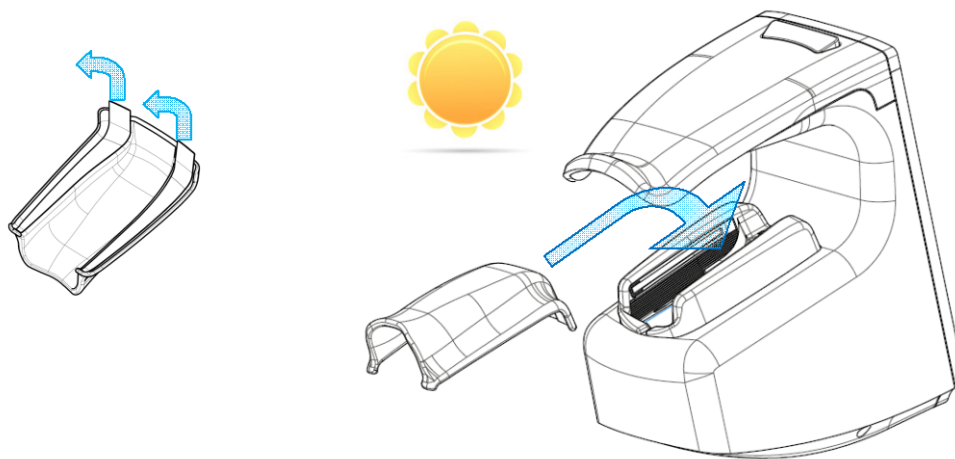

Figure 12: Assembling protection accessory
13. Depending on the light environment, it will be necessary to use a protection accessory (reference 7 in Figure 12) on the terminal as shown in Figure 12. Remove the adhesive protection and place the protection accessory on the side walls of biometric sensor.
12. Depending on the light environment, it will be necessary to use the protection accessory (reference 7 on Figure 12). Remove the adhesive protection and place the protection accessory on the side walls of the biometric sensor.